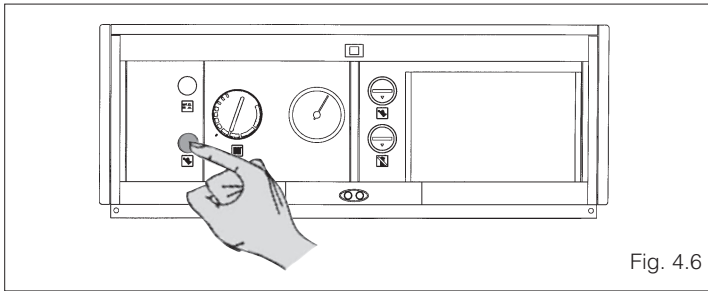

Fig. 4.6
- Wait for about 1 minute, then press the "burner reset" button (fig. 4.6).